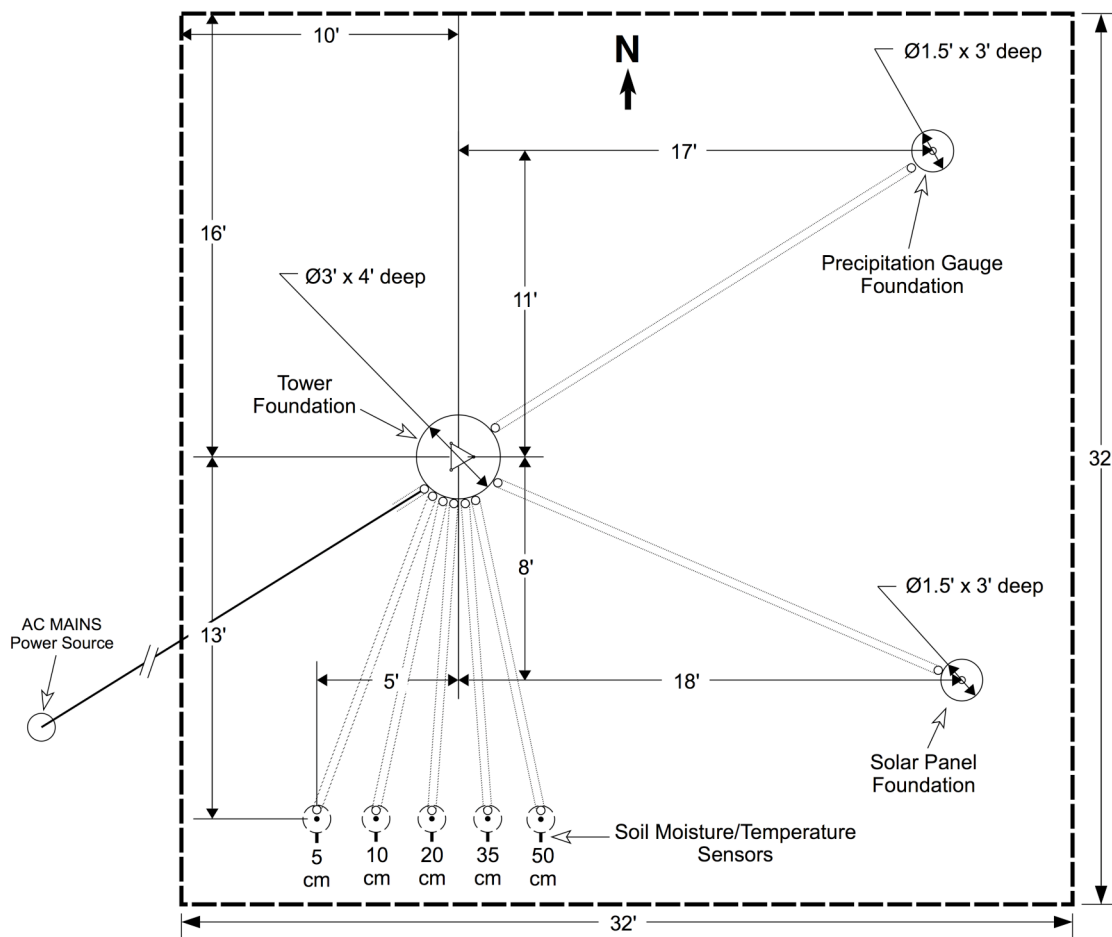

Figure 9. Plan view of a station plot that measures 32-by-32 feet showing the placement of foundations and conduit.
6. Install the tower base foundation, as shown in Figure 9, with the center of the tower 10 feet east and 16 feet south of the northwest corner of the plot. Install the tower base so that the tower will tilt to the west, with one of the flat tower sides facing due west (i.e., the side extends north-south). If a concrete foundation is necessary, take a photo of the foundation hole before pouring the concrete, as explained in Section 12, Photographic Documentation of Station Installation, beginning on Page 43. Install the concrete base for the tower as illustrated in Figure 9.
7. Install the concrete foundation for the precipitation gauge 11 feet north and 17 feet east of the tower, as shown in Figure 9. The precipitation gauge must be centered at the location shown in Figure 9. Dig a hole 1.5 feet in diameter and 3 feet deep, and insert a cylindrical concrete form into the hole. Drive a 2" pipe that is long enough to extend from the bottom of the hole to the precipitation gauge mount into the ground at the center of the hole. Verify that the pipe is exactly vertical and centered in the concrete form, and secure it in place at the top of the hole with a jig. Take a photo of the foundation hole before pouring the concrete, as explained in Section 12, Photographic Documentation of Station Installation, beginning on Page 43. Fill the concrete form with concrete and allow it to cure.
8. Install the solar panel mast foundation (if a solar panel is to be used) at a distance 8 feet south and 18 feet east of the tower, as shown in Figure 9. Dig a hole 1.5 feet in diameter and 3 feet deep, and insert a cylindrical concrete form into the hole. Drive a pipe of the proper size for the solar panel mount and that is long enough to extend from the bottom of the hole to the solar panel array mount into the ground at the center of the hole. Verify that the pipe is exactly vertical and centered in the concrete form, and secure it in place at the top of the hole with a jig. Take a photo of the foundation hole before pouring the concrete, as explained in Section 12, Photographic Documentation of Station Installation, beginning on Page 43. Fill the concrete form with concrete and allow it to cure.
23. Install conduit between the tower and the solar panel or solar battery enclosure, as shown in Figure 9. At the solar panel end, leave enough conduit length to attach it directly to the battery enclosure with a conduit fitting or to route it to the solar panel junction box where the output cable is connected to prevent string trimmer, lawn mower, or animal damage to the cables. At the tower end, leave enough conduit length to attach it directly to the logger enclosure with a conduit fitting. Bury the conduit so that it is at or below ground level to allow a mower to pass over it.
37. Install conduit between the tower and the precipitation gauge pedestal, as shown in Figure 9, allowing enough length to route it up the precipitation gauge pedestal to the base of the gauge and to the tower leg holding the data logger. At the tower end, leave enough conduit length to attach it directly to the logger enclosure with a conduit fitting to prevent string trimmer, lawn mower, or animal damage to the cables. Bury the conduit so that it is at or below ground level to allow a mower to pass over it.